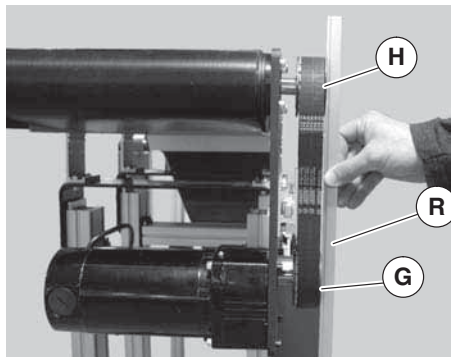
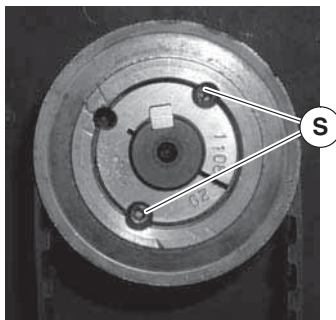
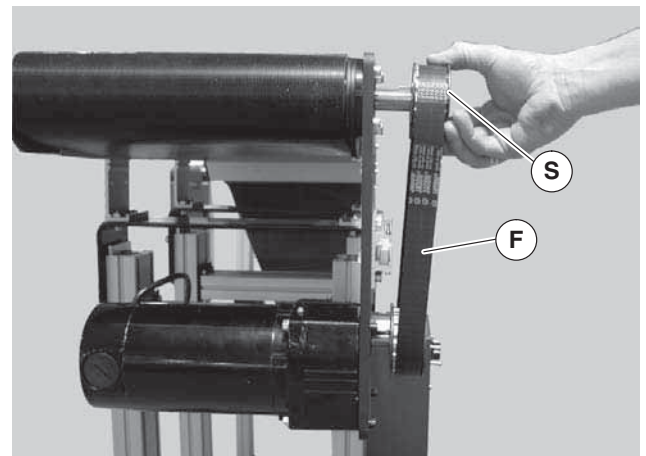

Figure 6
Figure 7
Figure 11
5. Wrap timing belt (F) around driven pulley (H) and drive pulley (G). Install driven pulley (H) onto conveyor shaft.
6. Using a straight edge (Figure 6, item R), align driven pulley (H) with drive pulley (G). Tighten driven pulley taper-lock screws (Figure 7, item S).
3. Remove timing belt (Figure 11, item F).
If timing belt does not slide over pulley flange, loosen driven pulley taper-lock screws (Figure 7, item S) & (Figure 11, item S) and remove pulley with belt (F). For re-installation, see steps 5 and 6 on page 8.